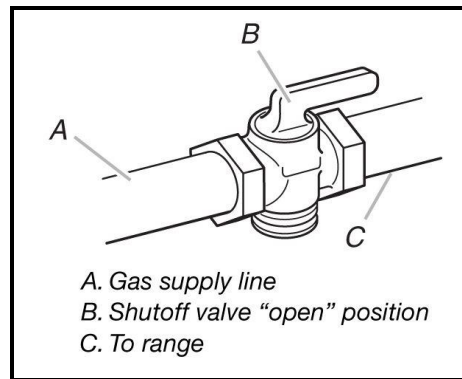

Figure 5
- The supply line must be equipped with a manual shutoff valve. This valve should be located in the same room but external to the range in an easily accessible location. It should be in a location that allows ease of opening and closing. Do not block access to shutoff valve. The valve is for turning on or shutting off gas to the range. (See Figure 5)